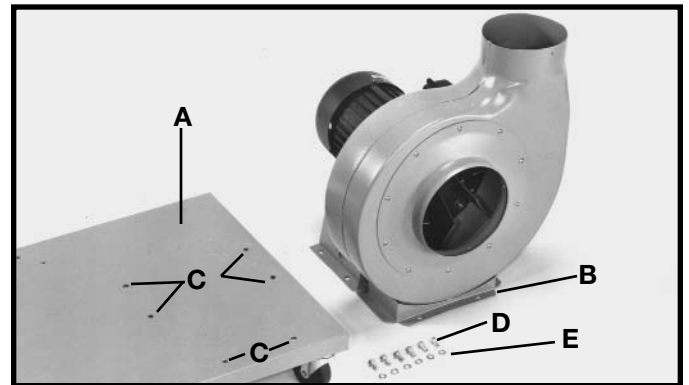

Fig. 6
1. Turn base (A) Fig. 6, right side up. Align the mounting holes at the base of blower and motor assembly (B) Fig. 6, with six pre-drilled holes (C) in base (A) and fasten with six 5/16-18x5/8" hex head screws (D) and 5/16" lockwashers (E).